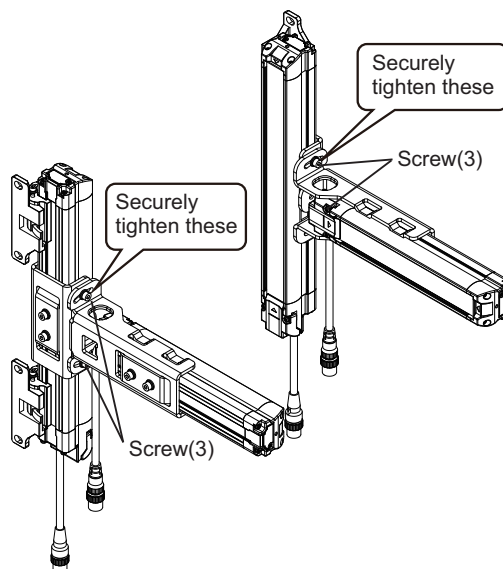

Fig. 8
- Securely tighten the Screw(3) to fix the Bracket(2) to Bracket(1). The recommended torque to tighten the Screw(3) is 3.0 N•m. (Fig. 8)